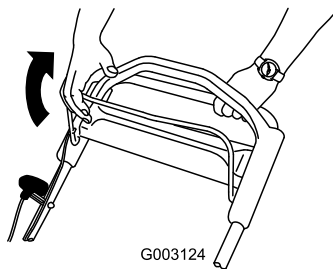

Figure 19
2. Pull the blade-control bar to the handle (Figure 19).